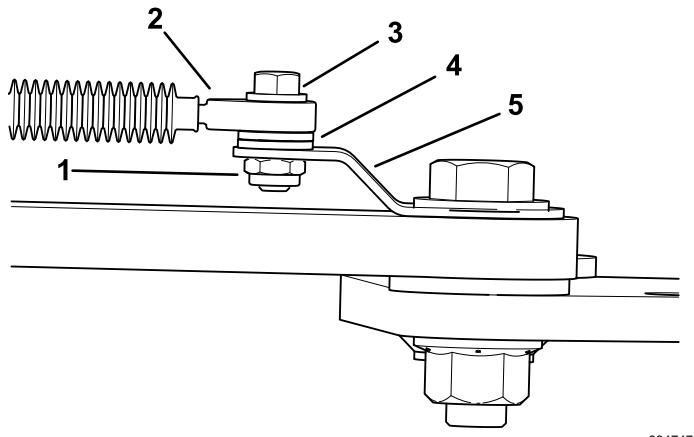

Figure 13
**Note:** When you remove the snowblower from the machine, remove the fasteners securing the cable to the cable plate shown in Figure 13. Do not remove the cable plate from the linkage and lift-arm assembly.